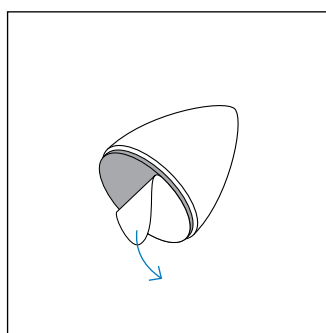

Figure 24
- Next, remove the adhesive backing film from the bumper (figure 24).